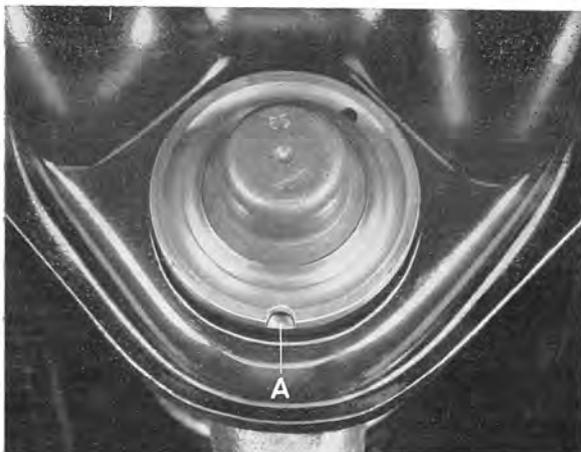

Fig. 6-22. Location of ball joint in upper control arm
1. Before installing the ball joint, check that the rubber seal is filled with grease. Bend the pin end over the slot (A, Fig. 6-22) and check that the grease forces its way out. If necessary, top up with multipurpose grease.
2. Press the ball joint into the control arm with press tool 2699, sleeve 2701 and drift 2704, see Fig. 6-23. Make sure that the ball joint recess coincides with the longitudinal shaft of the control arm (within $\pm 8^\circ$) either externally or internally (Fig. 6-22) as the pin has maximum movement along this line. Should the ball joint be incorrectly fitted when being pressed in, turn the tool 2699 half a turn and then press the ball joint into the correct position. The ball joint must not be loose in the control arm.